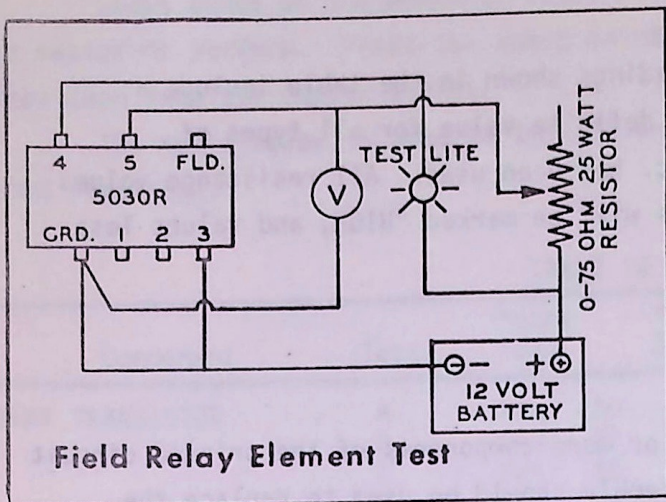

FIGURE 4-3. Field Relay Element Test
4.3.1 To check or adjust the closing voltage of the relay, a 12 volt battery, a variable resistor (0-75 ohm, 25 watt) voltmeter and a 12 volt light are needed. Connect this equipment as shown in Figure 4-3.